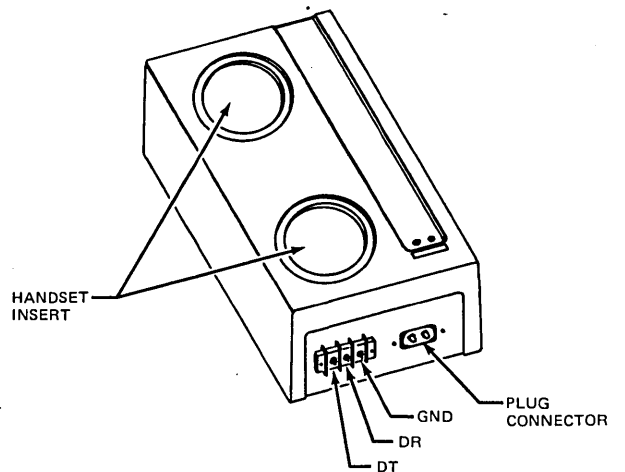

Figure B-6. Acoustic Coupler
b. If communications connection uses acoustic coupler, connect lugged leads at other end of communications cable to acoustic coupler connections DT and DR (polarity unimportant) (figure B-6).